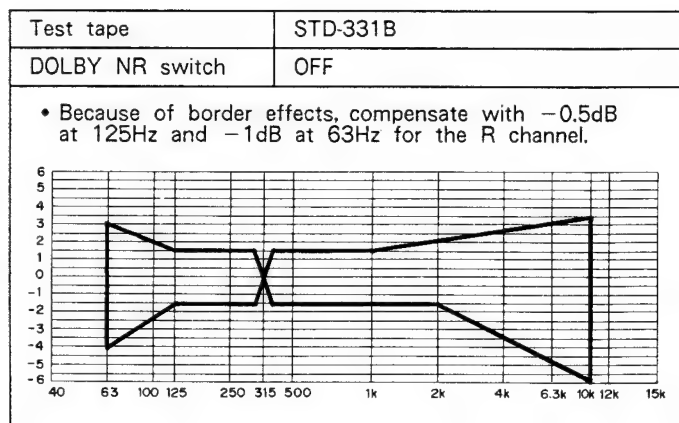

Fig. 8-5. Allowable playback frequency response zone
• Select the test tape, tape selector, and Dolby NR switch and satisfy the frequency response zone as shown in Figs. 8-5. and 8-6.